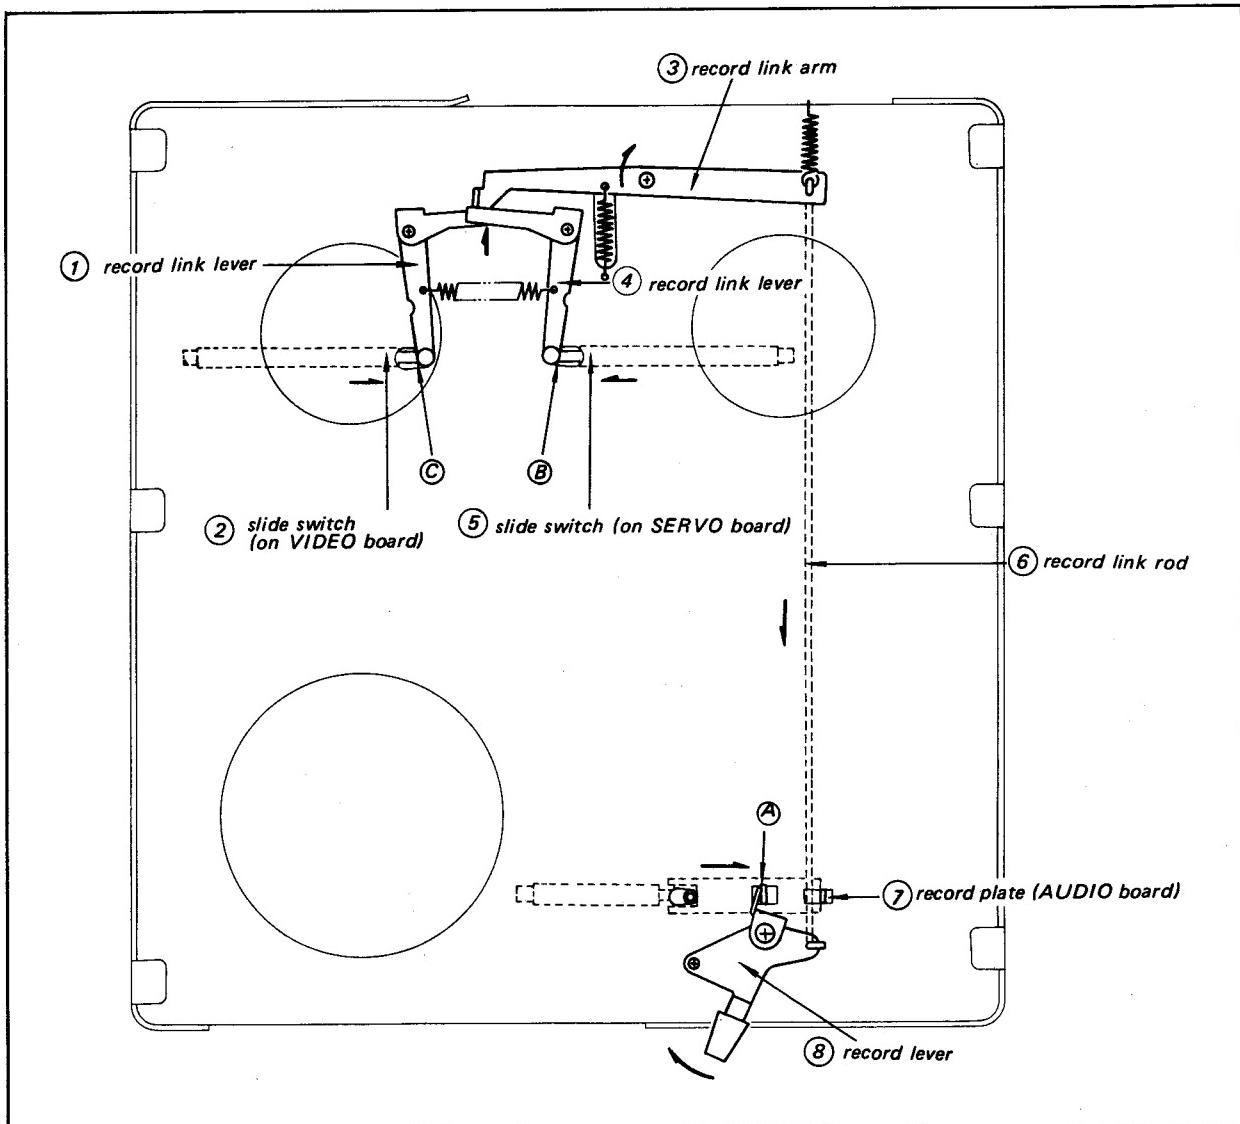

Fig. 9-5 Record mode mechanism
The tape transport operates the same in the record mode as it does in the play mode except that the record switches on the audio, video and servo boards are actuated. Refer to Fig. 9-5.
The Record Lever actuates the Record Plate on the audio board (at ⑧ in Fig. 9-5) and also the Record Link Rod, which pivots the Record Link Arm slightly clockwise. This permits two Record Link Levers, both under tension from a common spring, to pivot in opposite directions, thus actuating the slide switches on the servo and video boards (at ② and ⑤, respectively).